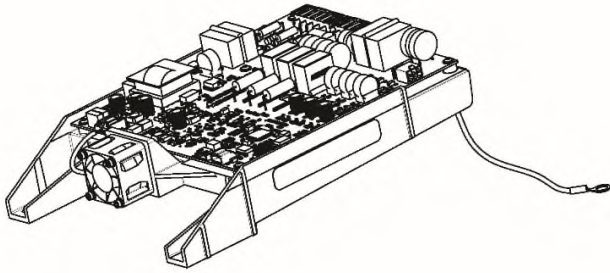
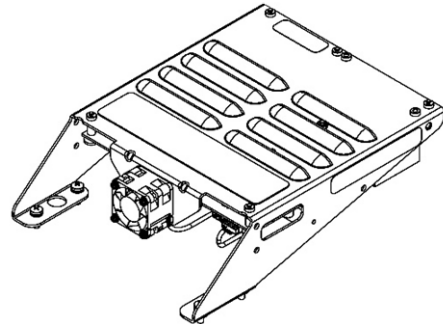

Figure 1 – Open-Top Soft Start
Figure 2 – Closed-Top Soft Start
The Soft Start included in this kit is noticeably different from the earlier Soft Starts. To identify the two (2) different Soft Start styles, refer to Figure 1 – Open-Top Soft Start and Figure 2 – Closed-Top Soft Start.